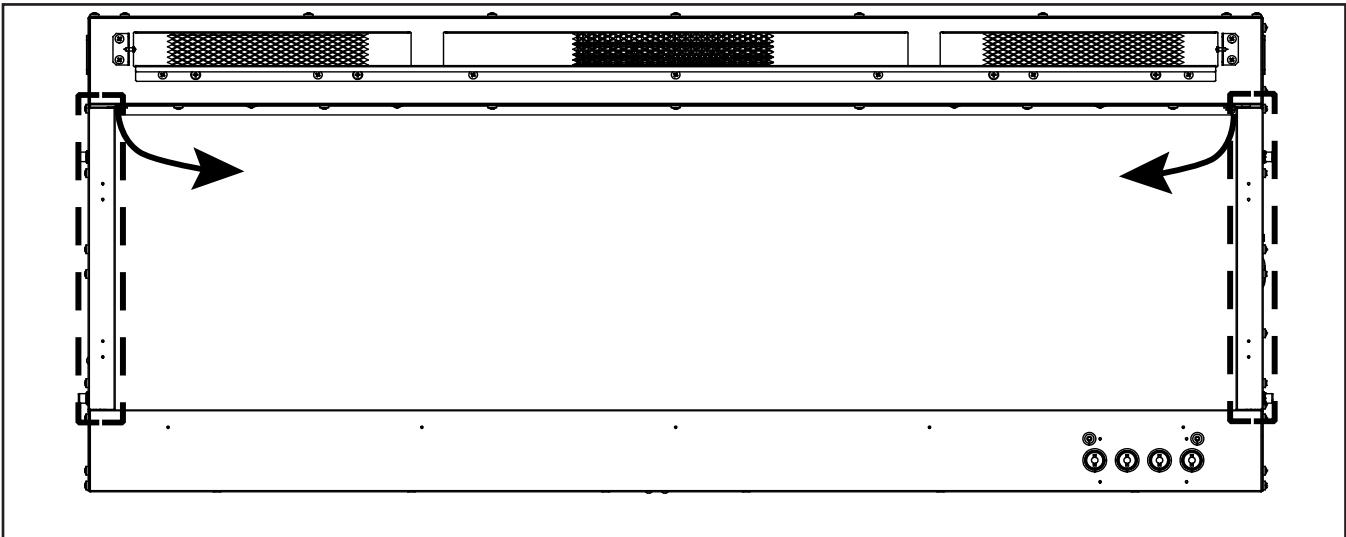

Figure 5. Remove Right & Left Side Panels
4. Remove right and left side panels by turning the panels inward. See Figure 5.